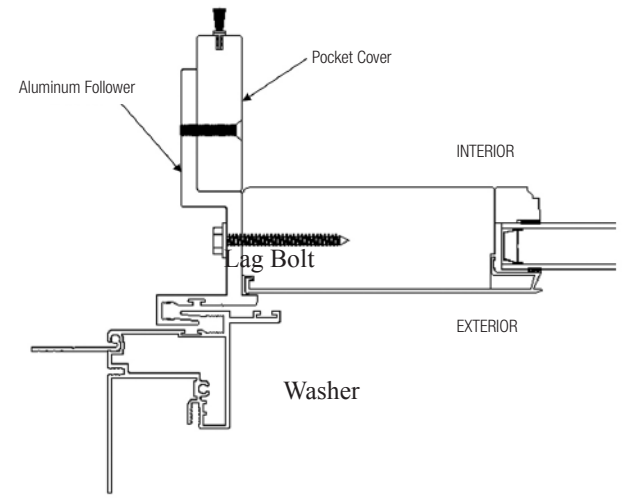

FIG. 19
- B) Attach the panel follower trim to the aluminum follower using the supplied screws in the "Interlock" screw package. (Fig. 19)